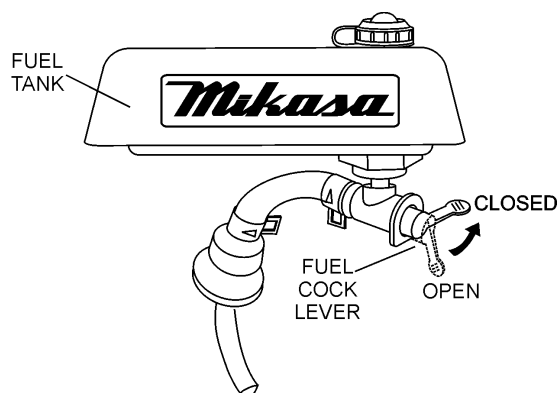

Figure 15. Fuel ShutOff Valve (Closed)
4. Close the fuel shut-off valve (Figure 15) by moving the fuel cock lever to the **CLOSED** position.